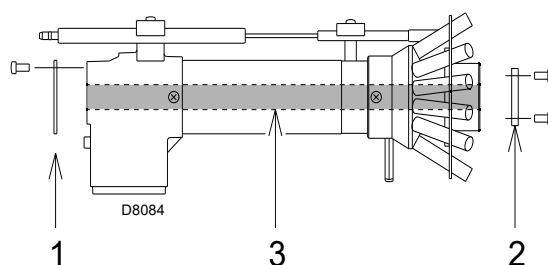

Fig. 19
- remove the inner tube 3) (Fig. 19) and install the discs 1) - 2) supplied as equipment.